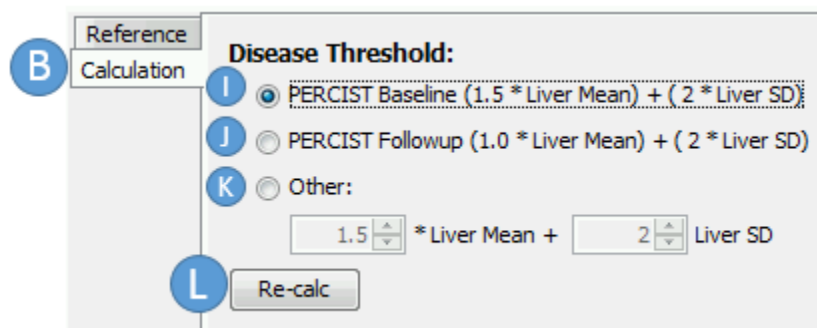

Figure 6-13 Auto-PERCIST™ Disease Threshold Calculation
This is sometimes referred to as the *Baseline PERCIST Threshold*. There are instances where an alternative method is used for calculating this assessment threshold. By selecting the *Calculation* tab (Figure 6-13) (B) on the *Disease Threshold* option page, the user can select auto-calculation of either the *PERCIST Baseline threshold* (I), the *PERCIST Followup Threshold* (J), or their own manual linear derivation of the threshold based on the mean and standard deviation of the measured VOI (K).